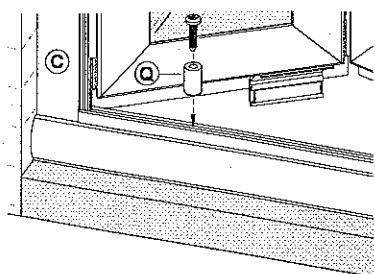

figure 9
14. The purpose of Door Stop (Q) is to prevent the Door Panels from hitting upon themselves. Using the pre-drilled pilot hole in the Guide Track's bottom, secure Door Stop (Q) to the Guide Track with one(1) Door Stop Screw (R) as shown in fig 9.
15. After all adjustments have been made, install a Jamb Cap (S) at both the hinge side and the strike side of the door as shown in exploded view - sheet 2. Trim Caps to required lengths before installing.